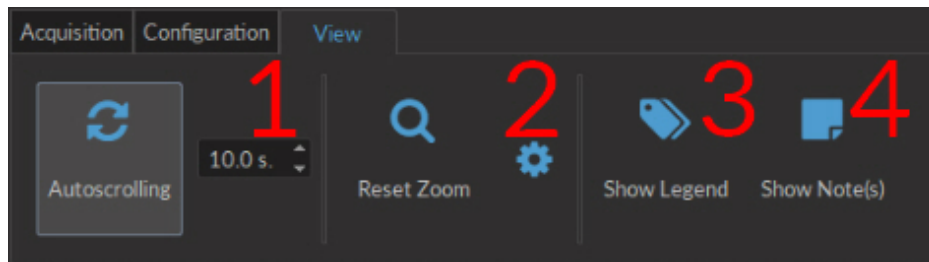
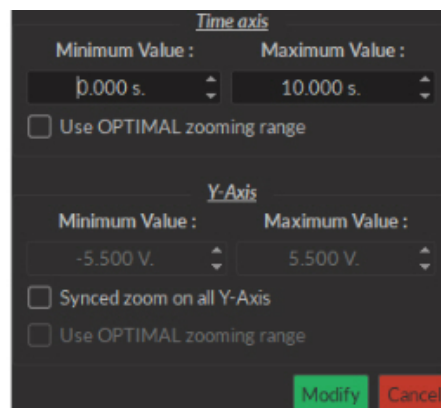

Figure 3.31: View Tab
Figure 3.32: Zooming Menu Window
The **View Tab** (Fig. 3.31) is used to modify the presentation of graphs in the **Acquisition view**.
1. The **Autoscrolling** button (Fig. 3.31), when clicked, makes the graphs scroll as new data appears. The duration (in seconds) kept on display is defined in the box beside the button.
2. The **Reset Zoom** button (Fig. 3.31) sets the graph zoom to a pre-defined value. This value is defined using the **Zooming menu** (Fig. 3.32), accessed using the **Gear** button.
3. The **Show Legend** button (Fig. 3.31) will open the **Legend** window (Fig. 3.33). This window display each configured **Channel**, as well as its **Name**, its **Channel Mode**, **Trigger Mode** and **Trigger Source** if applicable. Selecting the button while a window is open will close the window.
4. The **Show Notes** button (Fig. 3.31) will open the **Note Viewer** window (Fig. 3.34). Selecting the button while a window is open will close the window.